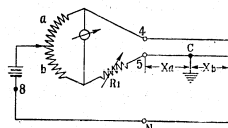

FIG 8
- (1) Join the three wires at distant end of the cable; Connect faulty wire to X_2 , one good wire to X_1 , the other good wire to post 8. Push lever switch to VAR. Set the ratio plug to an appropriate value A . Balance the bridge and obtain reading R_1 (Fig 8)